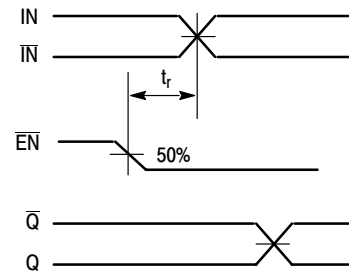

Figure 5. Release Time
20. The release time is the minimum time that  $\overline{\text{EN}}$  must be deasserted prior to the next IN/ $\overline{\text{IN}}$  transition to ensure an output response that meets the specified IN to Q propagation delay and output transition times (see Figure 5).